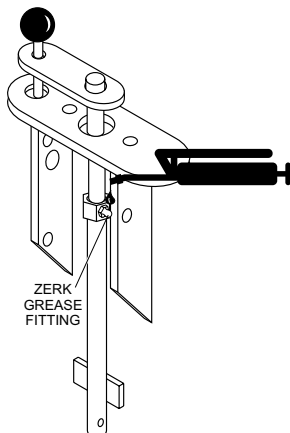

Figure 46. Raise/Lower Adjust Tube
3. **Raise/Lower Adjust Tube (1)** — Grease daily (Figure 46).